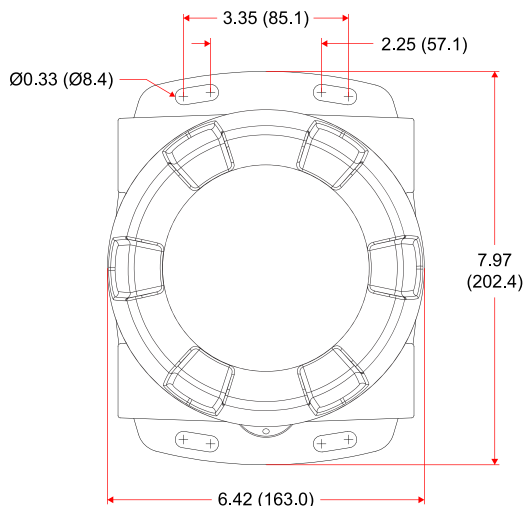
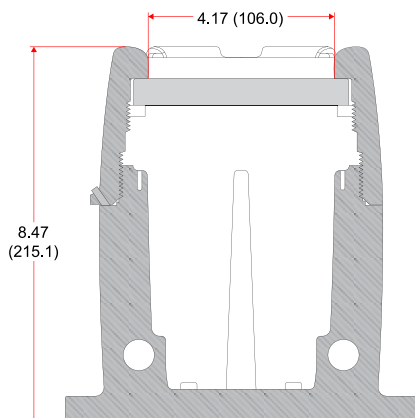

Figure 1. Enclosure Dimensions – Front View
Figure 2. Enclosure Dimensions – Side Cross Section View
The ProtEX-MAX has four slotted mounting flanges that may be used for pipe mounting or wall mounting. Refer to *Figure 1* and *Figure 2* below.
- Prepare a section of wall approximately 7.0" x 8.5" (178 mm x 216 mm) for controller mounting by marking with a pencil the mounting holes (shown in *Figure 1*) on the wall.
- Select the appropriate mounting screws for the mounting surface to be used. The mounting holes diameter is shown on *Figure 1*.